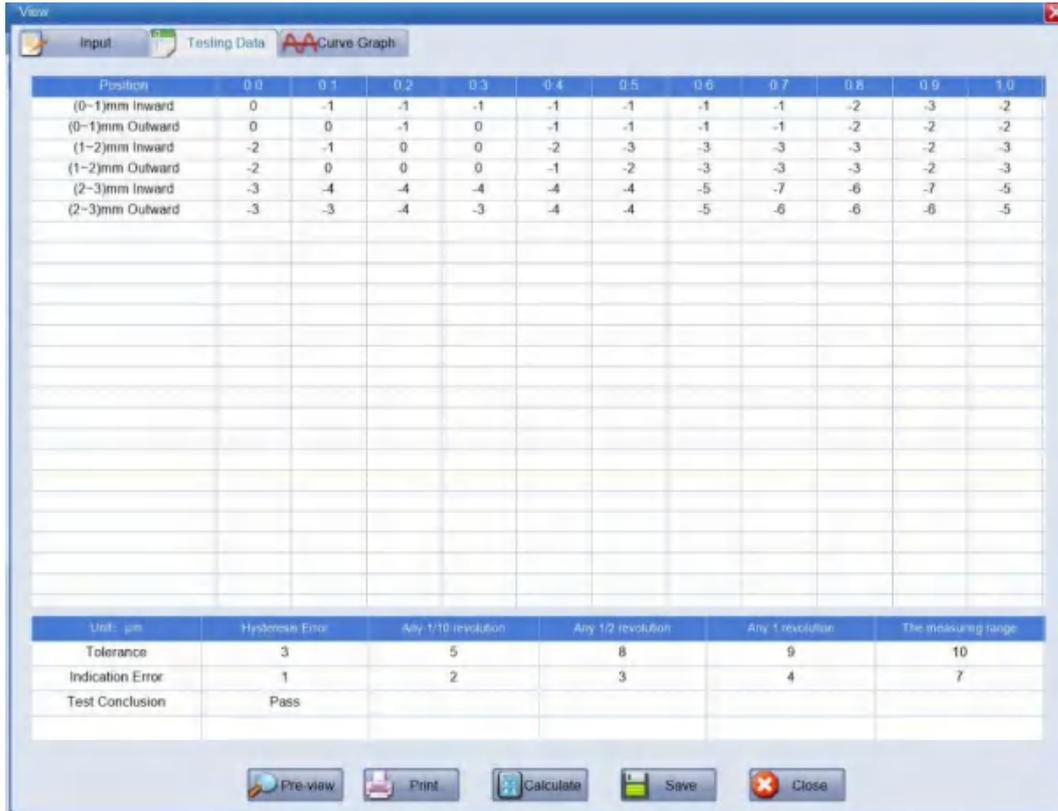

Figure 5-13 Record of dial gauge with graduation of 0.01 mm
- By clicking the “View record” button, you can view the detailed record of the measurement, including the input measurement information, the measured data and the error curves. See figure 5-13.